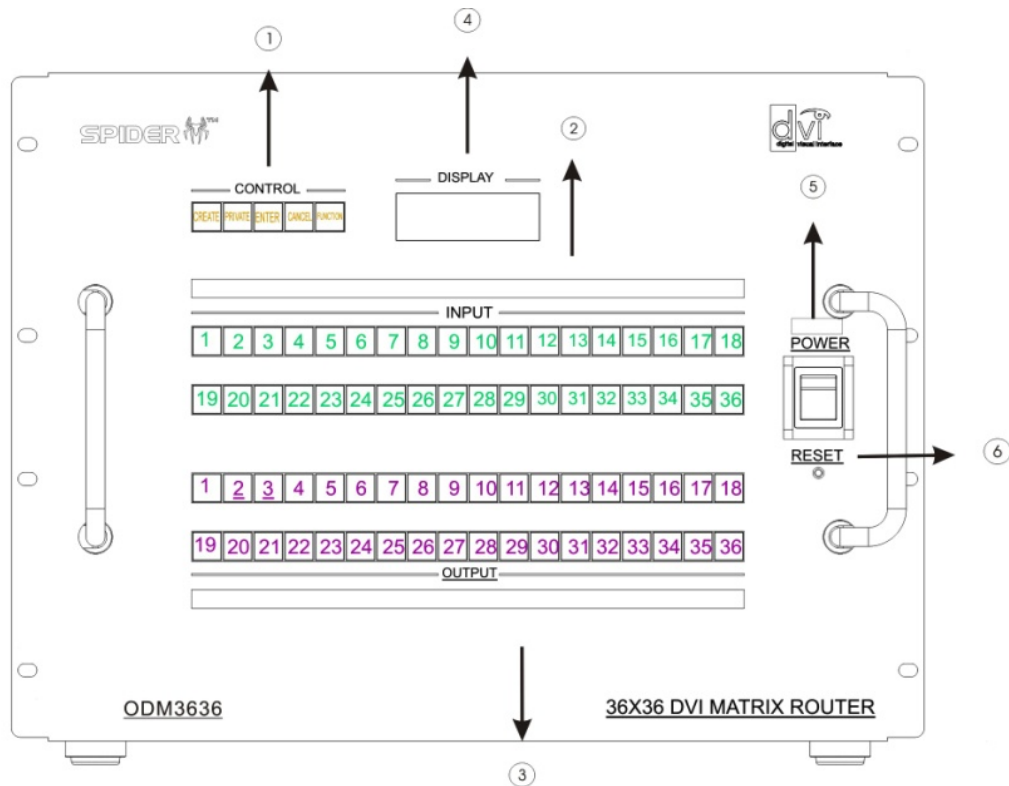

Figure 1-1 Front Panel
- ODM3636 chassis is mountable on a 19" standard rack with rack ears. Control keys, Input-Output buttons and the status LCD display, are placed on the front panel as shown in Figure 1-1.
- Control keys: ①
- Eight (36) LED inputs: ②
- Eight (36) LED outputs: ③
- Status display: LCD displays the control status in 20x4 text mode: ④